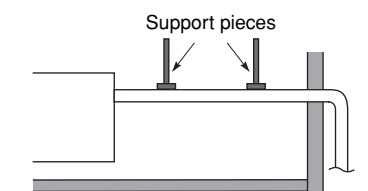

Fig. 3-73
- Do not apply force to the piping on the unit side when connecting the drain pipe. The pipe should not be allowed to hang unsupported from its connection to the unit. Fasten the pipe to a wall, frame, or other support as close to the unit as possible. (Fig. 3-73)